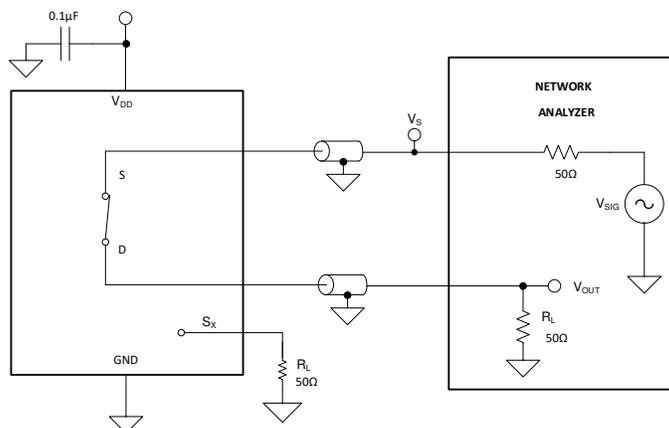

Figure 7-10. Bandwidth Measurement Setup
Bandwidth is defined as the range of frequencies that are attenuated by less than 3 dB when the input is applied to the source pin (Sx) of an on-channel, and the output is measured at the drain pin (D) of the device. Figure 7-10 shows the setup used to measure bandwidth.